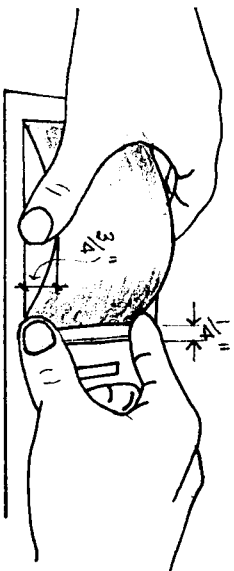
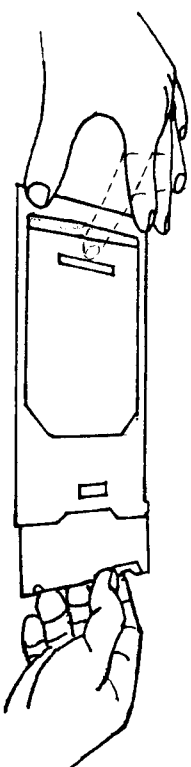

Fig. 5
Fig. 6
5. Slide the left index (or middle) finger and thumb up along the longitudinal edges of the film and hold the film up at the middle so that the film remains arched as shown in Fig. 5. At this point, the arched top of the film should be about $3/4$ inch high.
6. Press the right corners of the film down until the film and the index finger and thumb touch **INSIDE** corners of the right inner window frame (F). At this point the corners of the film should be about $1/4$ inch away from the corners of the windows as shown in Fig. 5.
7. Now, **GENTLY** slide the right corner of the film under the index finger and thumb by slowly flattening the arched film. At this point the right edge of the film should be tucked under the right inner window frame (F) and the entire film should be securely held within the Film Retainer. If the film is not loaded correctly, you will feel the sharp corner(s) of the film, and also the Cover Envelope will not close.
9. Push the cover **GENTLY** but firmly as shown in Fig. 6. If the Cover Envelope bumps the edge of the outer window frame (G) **DO NOT** force it in, but back it out a little and gently press down the envelope bumper (E) with the left index finger as shown in broken line, and push the envelope back in.